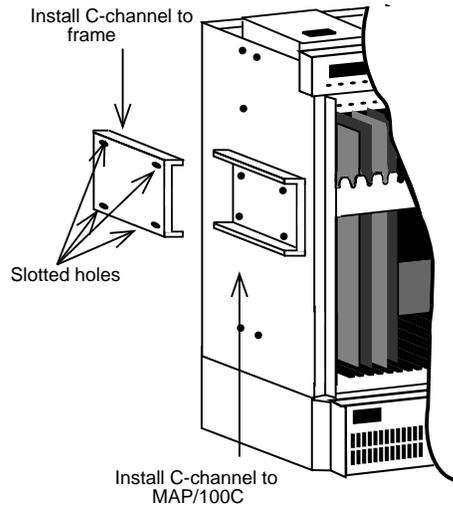

Figure 2-2. Installing C-Channel Brackets onto the Frame and the MAP/100C
4. Install C-channel brackets on the 5ESS Switch frame and on the MAP/100C. There are two sets that accompany each unit. The slotted C-channel must be installed onto the frame (Figure 2-2).